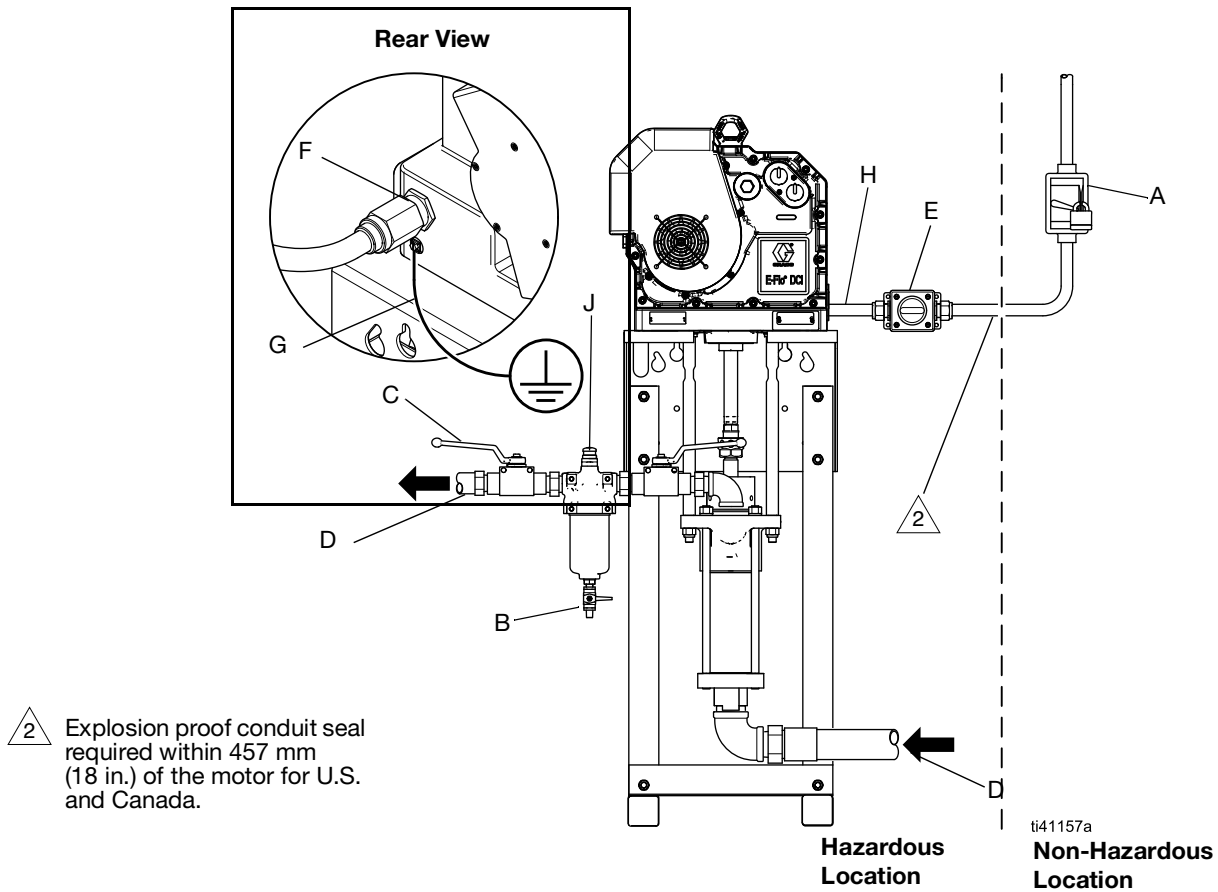

FIG. 1 Typical Installation
The system accessories shown in FIG. 1 are not included. Contact your Graco distributor to design a complete system.
- There must be an electrical disconnect (A) within easy reach of the equipment. See FIG. 1 **Typical Installation**, page 8.
Install accessories as shown in FIG. 1, using adapters as necessary. Make sure they meet the system's size and pressure rating requirements. See **Technical Specifications**, page 36.